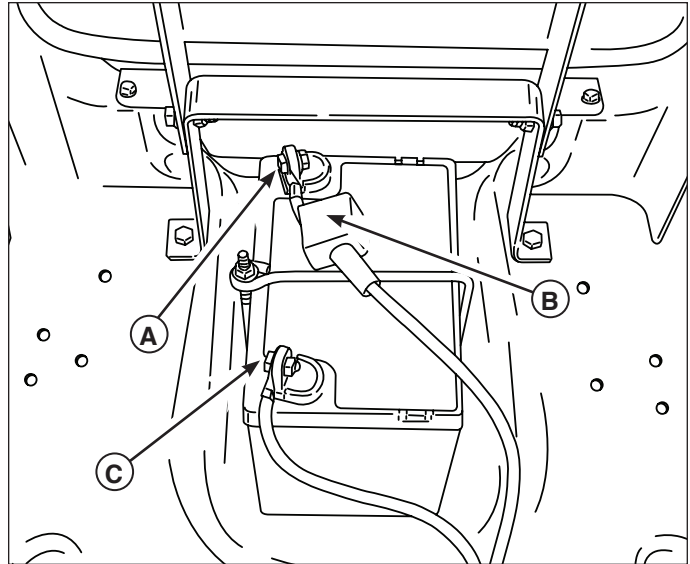

Figure 20. Battery Compartment
1. Disconnect the cables from the battery, negative cable first (C, Figure 20).
3. Reinstall the battery and reattach the battery cables, positive cable first (A).
5. Be sure to replace the terminal cover (B) over the positive battery terminal.